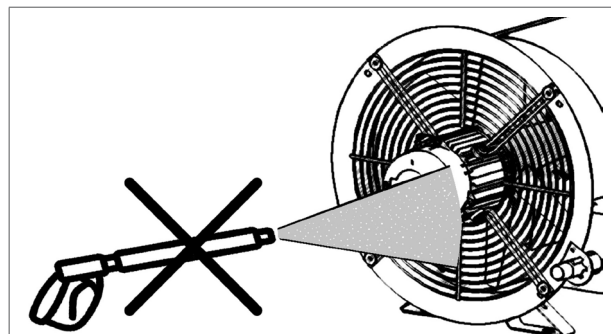

Figure 21 - Never spray water or chemicals into the fan opening or fan motor
4. Never spray water or chemicals into the fan opening or fan motor (figure 21).